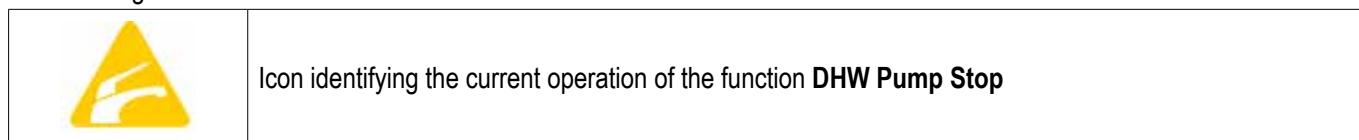

FIG. ALL4
- 18) DWH Pump Stop. With the function enabled, the outputs dedicated to the HT circulation pump (OUT 7) and the MIX circulation pump (OUT 8) and the relative pump speed commands (CIRC PUMP HT and CIRC PUMP MIX) are stopped if the heat pump is producing domestic hot water. The pause time can be selected from the relative drop-down menu. The function is independent for the mixed (MIX) and direct (HT) circuit. The activation of the function is notified in the overview for the peripheral device under consideration, with the icon shown in (see chap. 6, fig. ALL4).
- 20) Configurable outputs, assignable to the direct circuit (HT) in Heating and Cooling mode. Outputs 1 to 6 (OUT 1-6) are not subject to the Soft Start, Delayed Start, DWH Pump Stop functions described above. Outputs 4, 5 and 6 are configurable and associated only to the direct circuit (HT) and are enabled as soon as the module receives the request to the HT circuit (IN HT CONTACT or ROOM).
- 21) Outputs 7 and 8, assigned respectively to the consent for circulation pump management for the direct (HT) and mixed (MIX) circuit
If the **DHW Pump Stop** function is active for the HT and/or MIX circuits, the icon in Fig. ALL4 is displayed **during the period in which this function is active on the outputs** OUT 7 and/or OUT 8 and on the corresponding speed control signals CIRC PUMP HT and/or CIRC PUMP MIX.